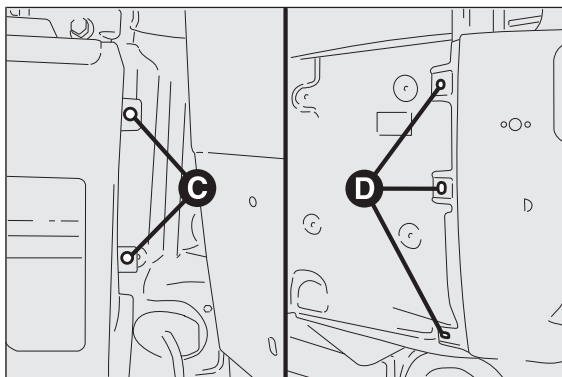

fig. 202
- ❑ unscrew both fastenings C fig. 202 on the side of the rear swing door, accessible by opening the door slightly;
- ☐ unscrew the three side fastenings D on the side of the panel, accessible after removing the side moulding fig. 202. To remove the moulding, unscrew the three lower self-tapping screws and detach the pins carefully to avoid breaking them. If one or more pins are broken, they will have to be replaced;